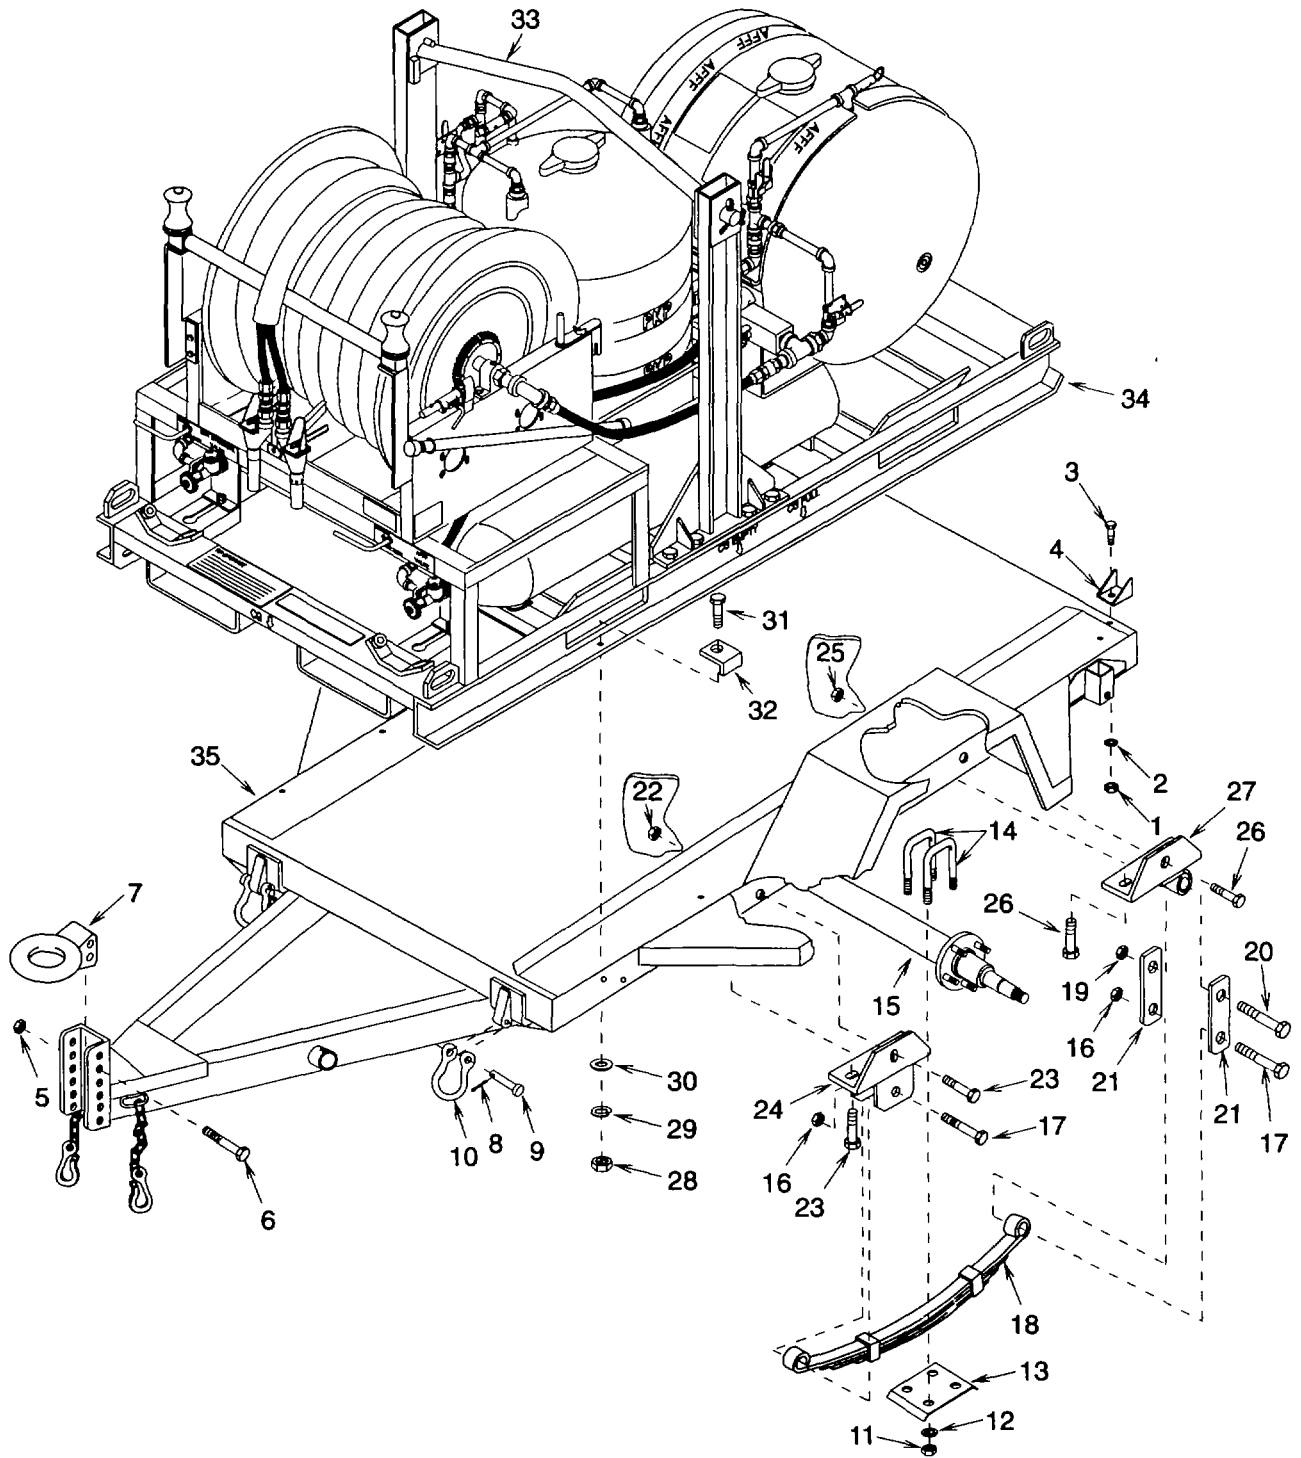

Figure 4-33. Trailer
- a. Disassembly (See figure 4-33.)
- (c) Using jack and four jack stands, raise and secure frame (35).
- (d) Remove six lock nuts (22) and screws (23). Discard lock nuts.
- (e) Remove six lock nuts (25) and screws (26). Discard lock nuts.
- (f) Remove two stop blocks (4), one pintle (7), and four tie down eyes (10) per steps (1) through (3) above.
- (i) Remove frame (35).
b. Repair (See figure 4-33.)
- (1) Repair is limited to replacement of defective or damaged components only.
- (2) Send frame (35) to Direct Support Maintenance for repair.
c. Assembly (See figure 4-33.)
(1) Stop block installation.